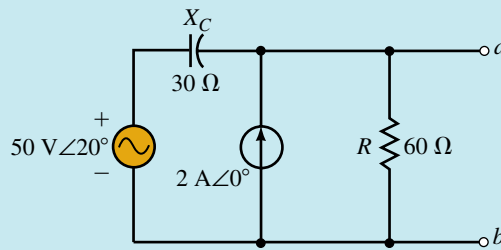

FIGURE 20-19
Step 1: Removing the branch containing Z_L , we have the circuit of Figure 20-19.